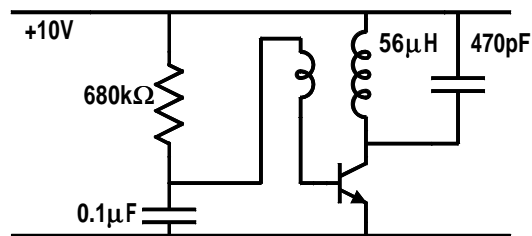

Figure 53.9: Problem 53.8.
- 53.8 In the circuit shown in Figure 53.9, the collector load is a resonant LC circuit. Calculate the frequency at which the gain will be a maximum. The secondary winding couples a fraction of the output signal back to the base. Under what circumstances will positive feedback occur? What will be the frequency of oscillation of the circuit? Under what circumstances will the output waveform be sinusoidal?